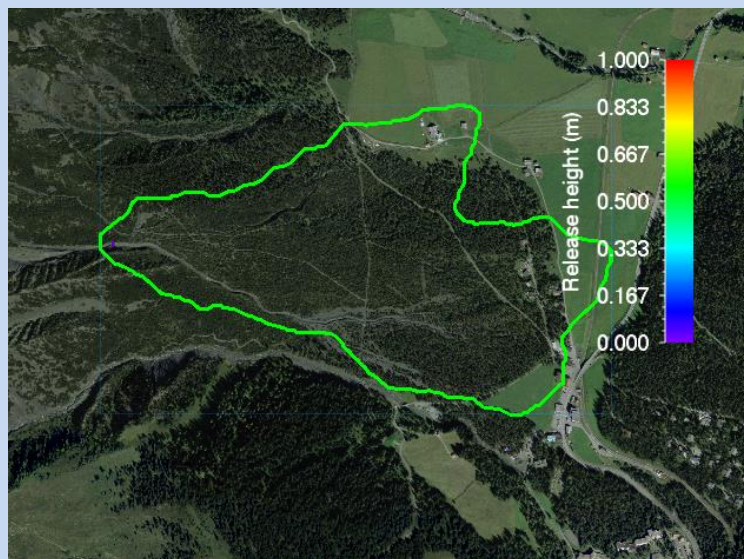

Figure 3.44: Input file with optimized calculation domain (envelope shapefile)
- Use *Input* → *Calculation Domain...* → *Load Existing Domain* to load your envelope shapefile as a new calculation domain, see Figure 3.44 below.